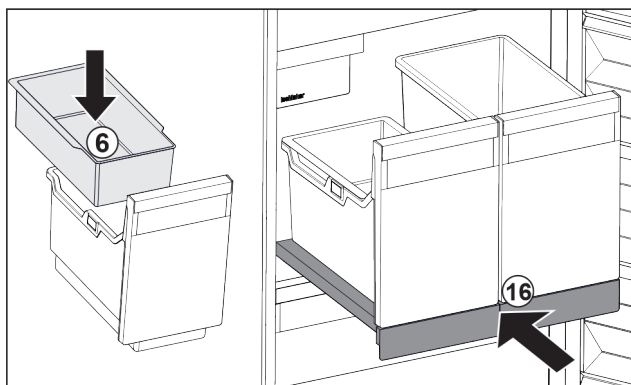

Fig. 102
- Insert hang-on tray Fig. 102 (6) for ice cubes.
- Slide in the pull-out board with container (IceTower). Fig. 102 (16)